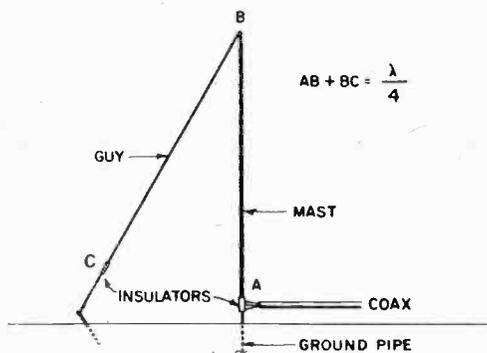

Fig. 1—Single guy wire (BC) is connected to 20-foot mast (AB) to form quarter-wave arm of antenna; second arm improves bandwidth, guying.
Cut a piece of perforated board 15 holes wide and 10 holes high. On the copper-clad side, letter the ten rows A through J and mark the 15 columns one through 15, as shown in Fig. 1. Place a resist dot over the holes indicated (B1, G7, etc.) and join the dots with resist tape (the heavy lines in Fig. 1). Place the board in a glass or plastic tray and pour in etchant solution to cover it. Agitate at least once every minute.
Fig. 1 (above)—Copper-clad side of circuit board shows you where to apply resist dots and tape. Fig. 2 (below)—Parts location on reverse side is shown. Q1-B, for example, is for base lead of Q1.
Each of the Mainmast's guys, when added to the length of the vertical, represents a quarter-wave antenna. Thus in Fig. 1, we would add the 20-foot length of the vertical (AB) to the length of the single guy (BC) to find its electrical wavelength. The mast length also would be added to the guy on the opposite side. In other words, the mast forms part of each quarter-wave arm of the antenna.